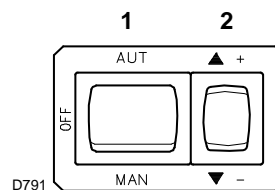
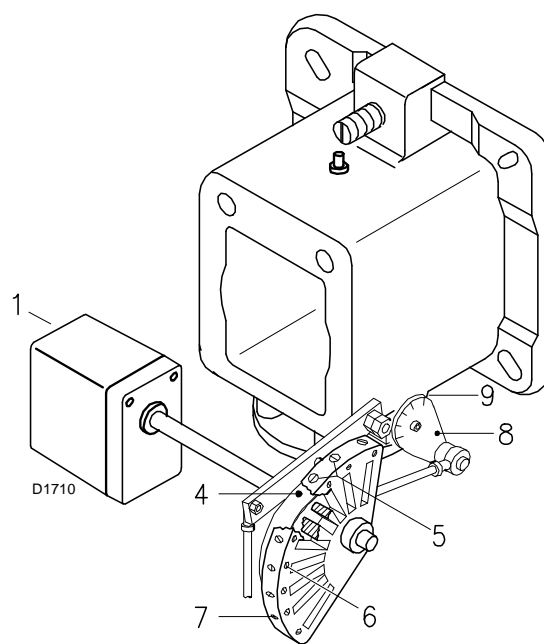
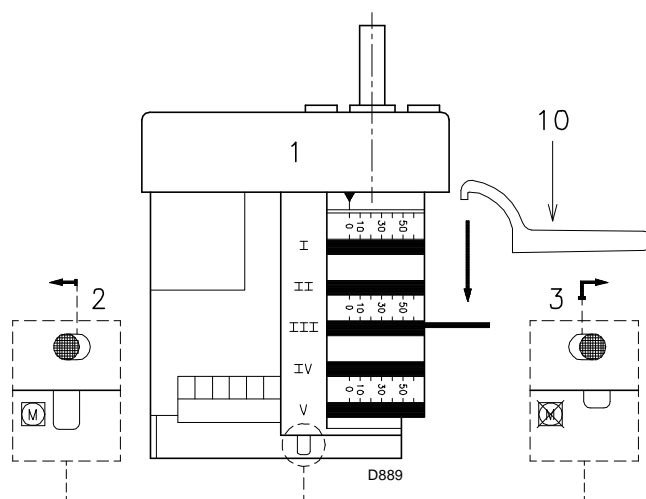

Fig. 35
Fig. 36
Fig. 37
Close the control devices and set switch 1)(Fig. 35) to "MAN".
In the above instructions we left the burner running in MIN. output operation. Now press button 2)(Fig. 35) "increase output" and keep it pressed until the servomotor has opened the air gate valve and the gas butterfly valve.
Progressively adjust the end profile of cam 4)(Fig. 36) by turning the screws 7).
Press button 2)(Fig. 35 at page 28) "output reduction" until the servomotor has closed the air gate valve and the gas butterfly valve to 30° (factory set adjustment).
- If this value is to be reduced, decrease the angle of cam III (Fig. 37) slightly by proceeding a little at a time until the angle is changed from 30° to 28° - 26°....
- If it has to be increased press the button "output increase" 2)(Fig. 35 at page 28) (i.e. open the gas butterfly valve by 10-15°), increase the cam III angle (Fig. 37) with small successive movements, i.e. take it from angle 30° to 32° - 34°... Then press the button "output decrease" until the servomotor is taken to the minimum opening position and measure the gas delivery.
- In order to adjust cam III, especially for fine movements, the key 10)(Fig. 37), held by a magnet under the servomotor, can be used.
Progressively adjust the starting profile of cam 4)(Fig. 36) by turning the screws 5).
Key Fig. 36
Press the key 2)(Fig. 35 at page 28) "output increase" a little so that the servomotor turns by about 15°.
- Switch off the burner using switch 1)(Fig. 35 at page 28), at OFF position;
- disengage the cam 4)(Fig. 36) from the servomotor, by pressing the button 3)(Fig. 37);
- Engage the cam 4) to the servomotor again by moving the button 2)(Fig. 37) to the left.
- Finally fix the adjustment by turning the screws 6)(Fig. 36).
Disengage the cam 4)(Fig. 36 at page 29) from the servomotor, by pressing and moving button 3)(Fig. 37) towards the right, and turn it backwards and forwards by hand to make sure it moves freely. Now engage the cam again by moving the button 2)(Fig. 37) to the left.